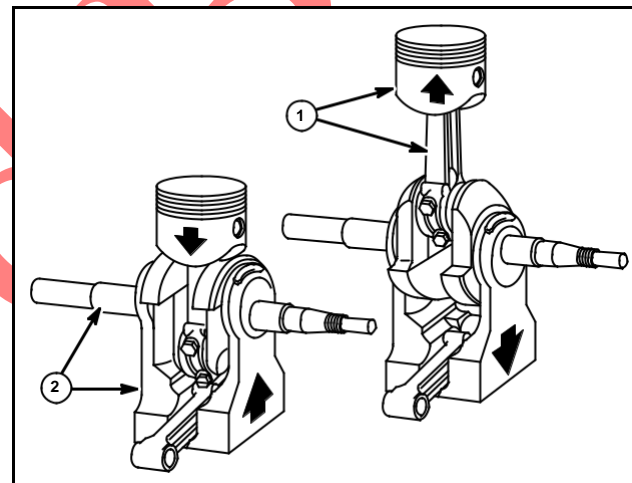

Fig. 8
3. Remove connecting rod and piston (1) from engine.
4. Remove crankshaft and counterweight assembly (2), Fig. 8.